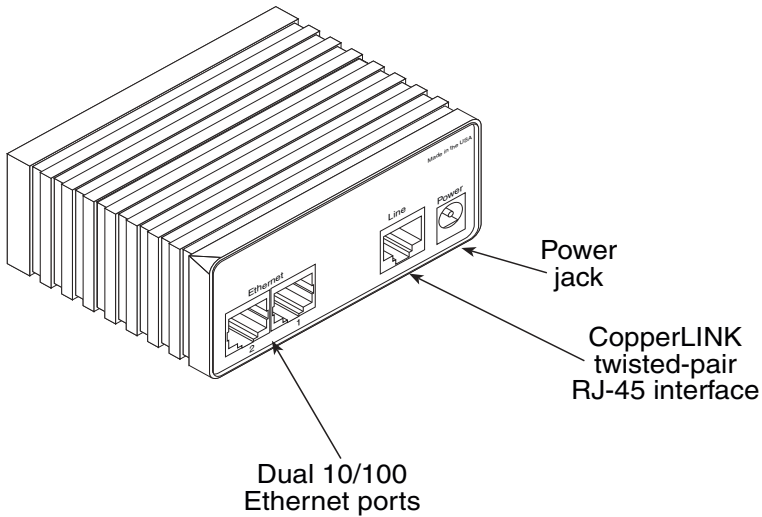

Figure 2. Model 2158B standalone rear panel
- Note** See Figure 2 for the standalone unit’s rear panel arrangements.